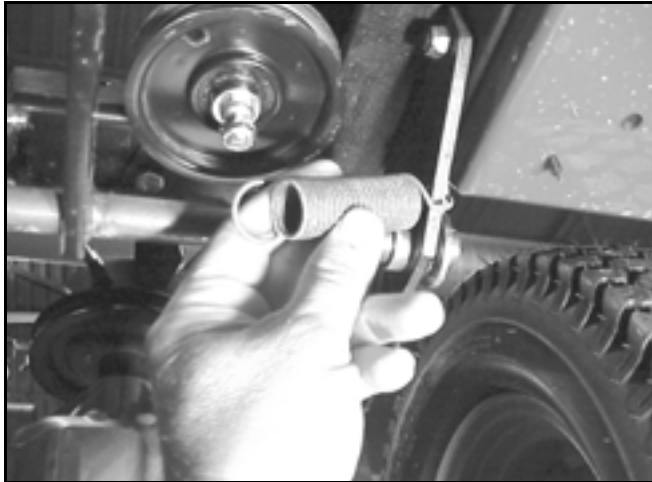

Figure 159
11. Install the idler spring to the idler pulley, located toward the rear of the tractor (Figure 159).